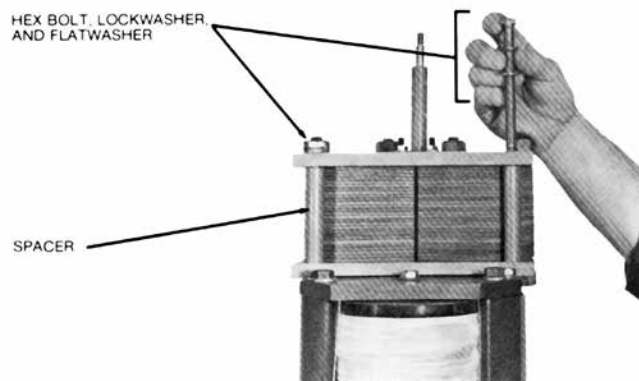

Figure 10. Removing 5-1/2-in. hex bolts, washers, and spacers from interrupter plate assembly
- C. Remove the two 5-1/2-in. hex bolts, lockwashers, flatwashers, and spacers from the bottom of the interrupter plate assembly (Figure 10).